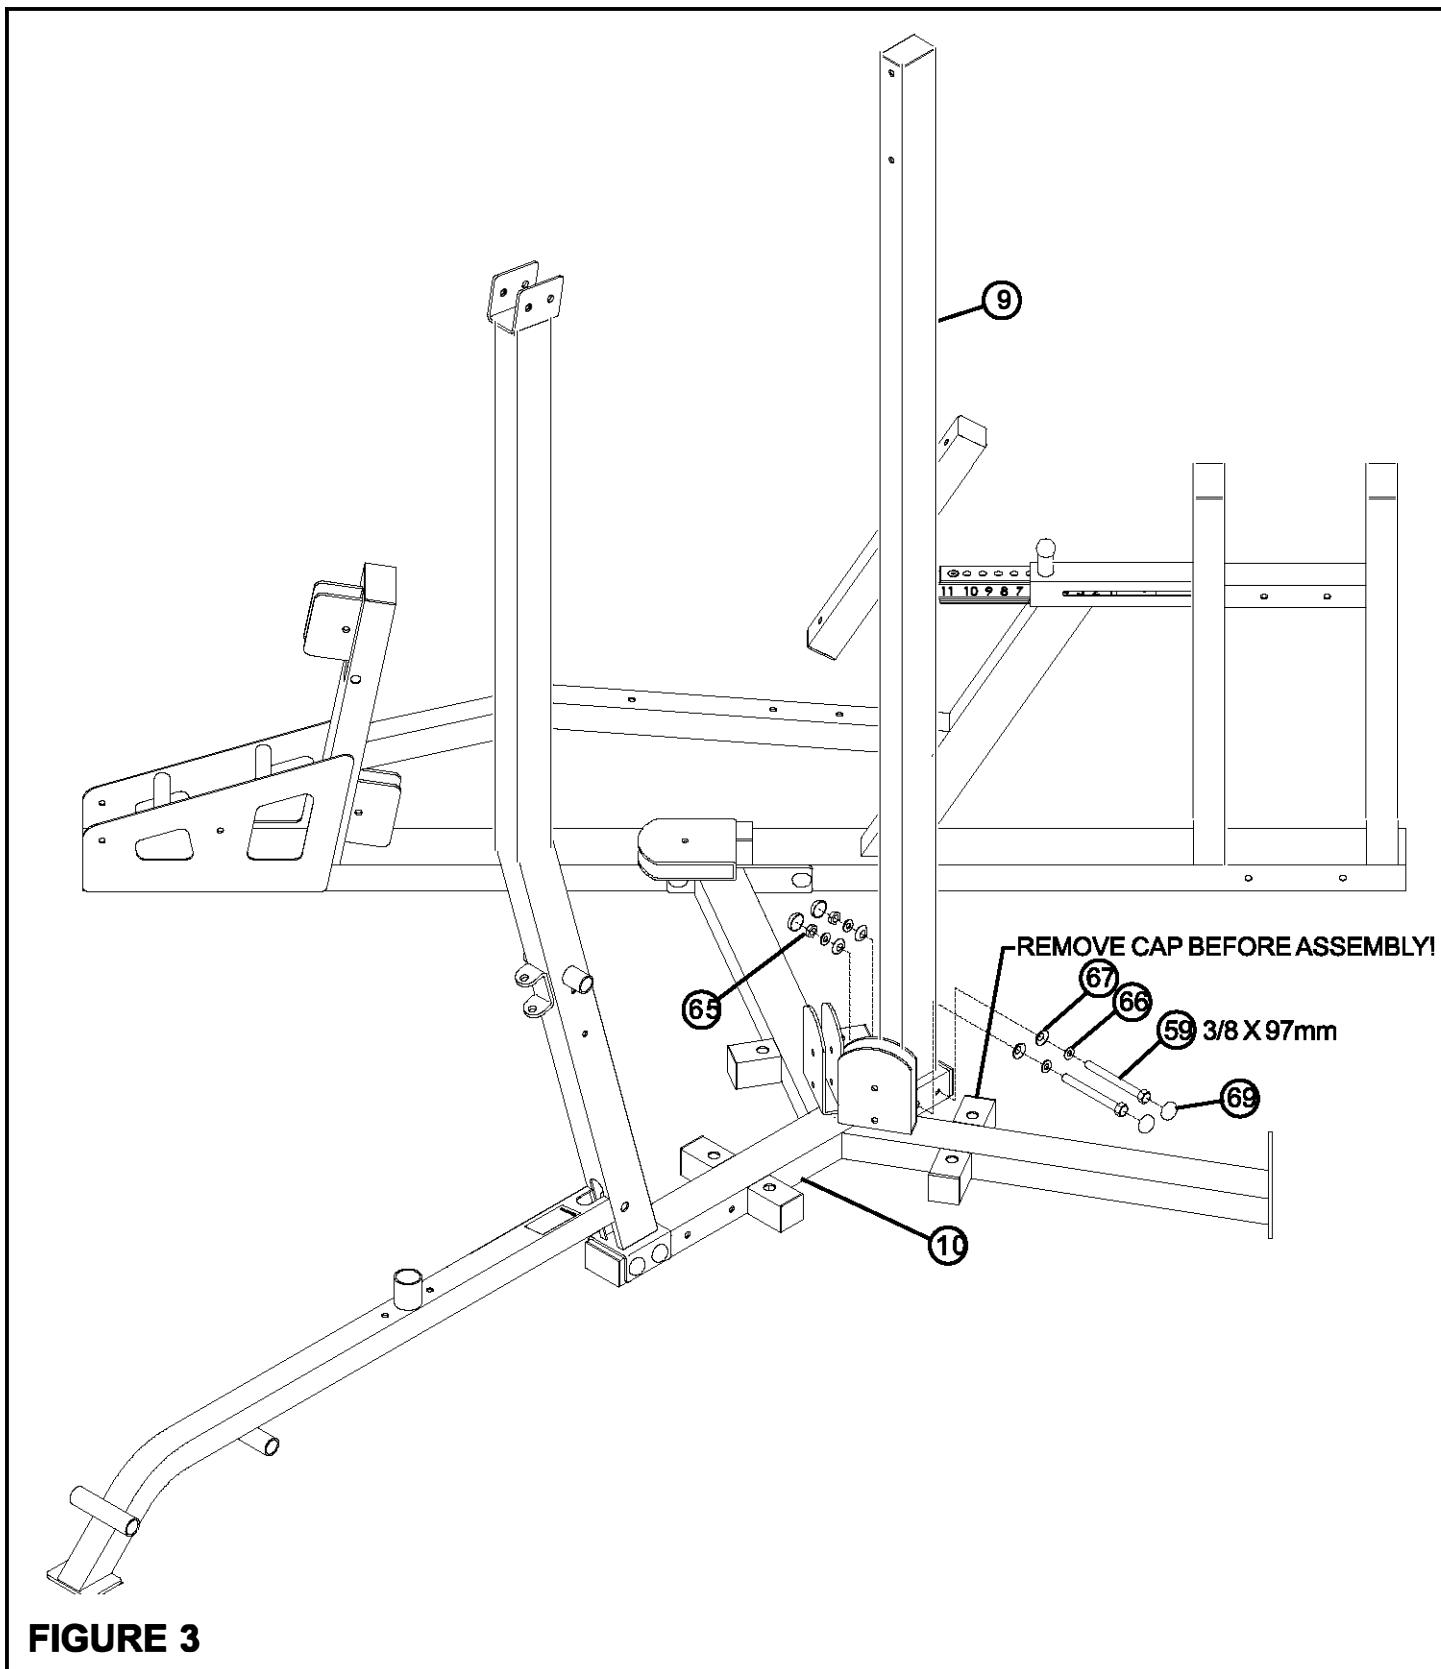

**FIGURE 2**
- **LOOSELY** assemble the LEG PRESS FRAME (85) to the TOWER BASE (10) using four RH CAPS (69), two 3/8 X 117 mm BOLTS (104), four 3/8" SAE WASHERS (66), four 3/8" RH WASHERS (67) and two 3/8" LOW HEIGHT LOCK NUTS (65) as shown in FIGURE 2. (NOTE: The two 3/8 X 117mm BOLTS (104) for this step are in the LEG PRESS hardware bag.)